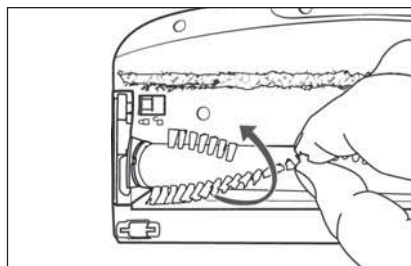

Fig. 27
- 3) Pull the rotary brush **21** out of the floor brush **22** by the bristles. Turn the rotary brush **21** slightly to make it easier to remove (see Fig. 27).